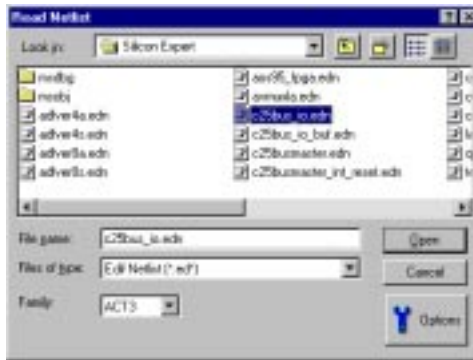

Figure 6-19. Read Netlist dialog box
1. **Click the Read Netlist button in the toolbar, as shown in Figure 6-18.** This invokes the Read Netlist dialog box as shown in Figure 6-19 on page 34.